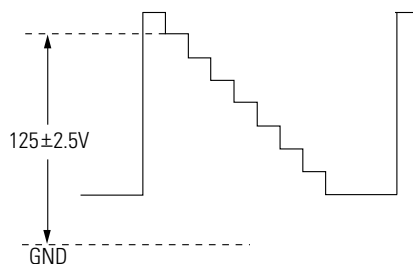

Fig. 4-1
4. Adjust the Screen VR (on the FBT) so that the voltage on the oscilloscope becomes $125 \pm 2.5V$ (See Fig. 4-1).